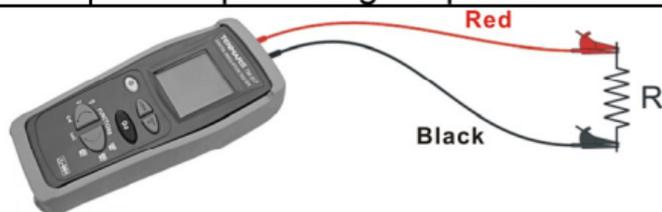

Fig. 4 : Connection of the instrument's terminals during Ω (with continuity symbol) test.
5. Position the test probes on the desired points of the circuit under test (see Fig. 4)